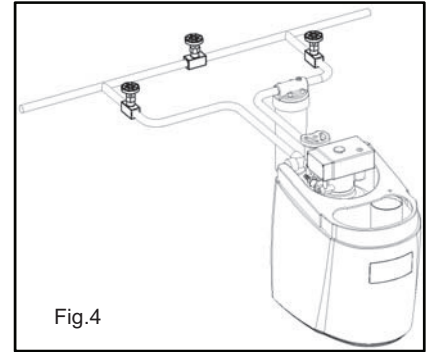

Fig.4
4. Install an additional by pass to the one on the valve (or the one you added on the valve). This guarantees a water supply in case of failure or maintenance. (Fig. 4)